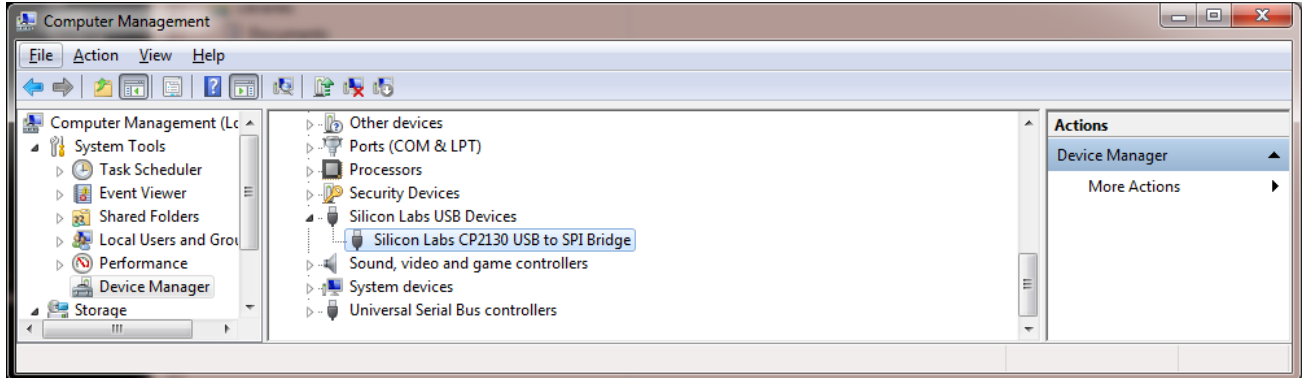

Figure 27: Checking Silicon Labs CP2130 USB to SPI Bridge
2. Open “Device Manager” and check if “Silicon Labs CP2130 USB to SPI Bridge” is available (Figure 27)